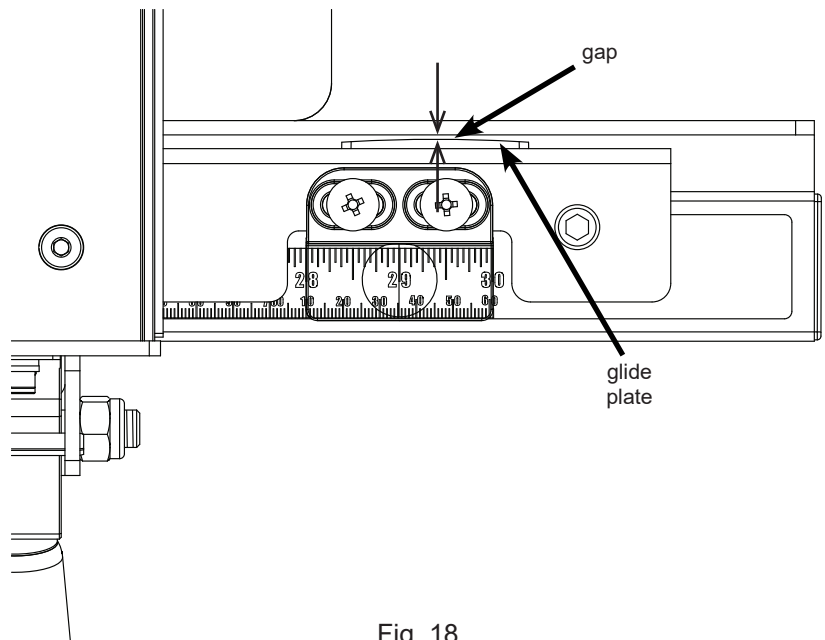

Fig. 18
18. Next, move the fence to the right end of the main tube, repeat the above process to position the main tube, and tighten the right-most bolt (see Fig. 18). Once both ends of the main tube are adjusted correctly, use a 13 mm wrench to tighten the remaining M8x1.0x16 hex head bolts to mount the main tube to the front rail. Be careful not to over-tighten the bolts because you may strip the threads in the main tube (recommended torque = 8.0 ft·lbs). The fence should now slide smoothly along the main tube without binding and without excessive play.